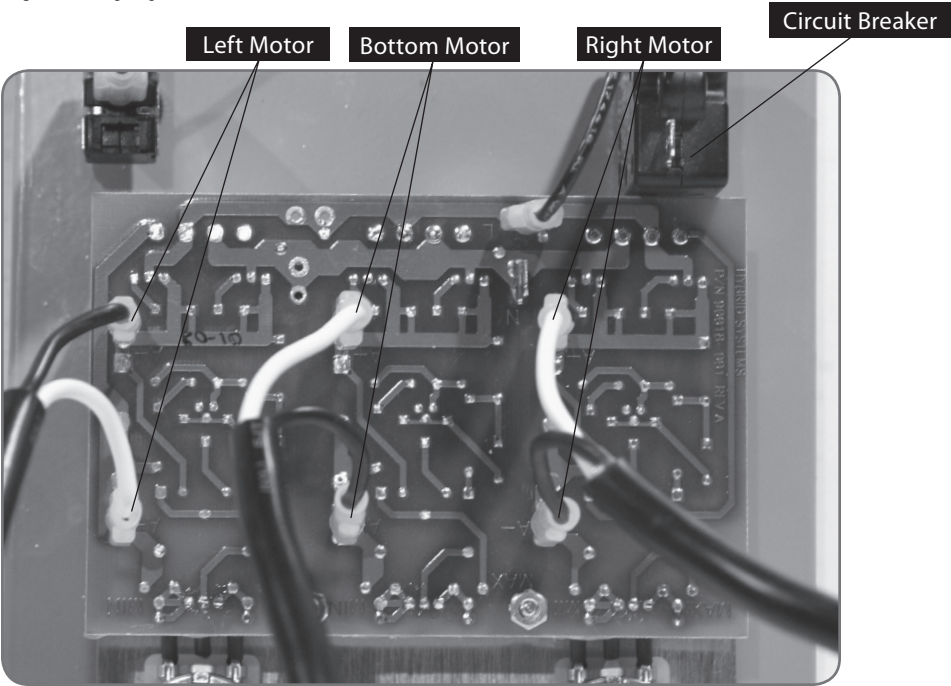
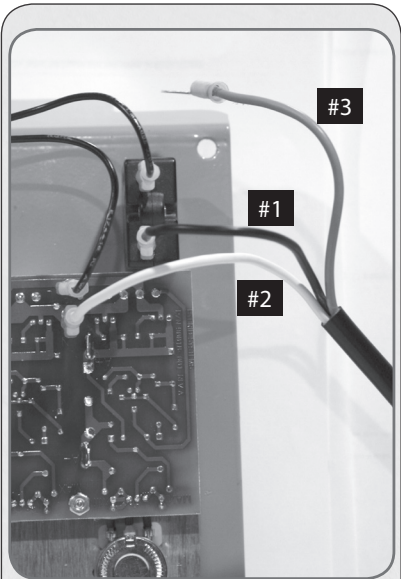

Figure 10 Wiring diagram for all three motors.
Figure 11
3. Remove four screws holding controller into main casting. Note the position of the motor wires on the controller, then disconnect the wires. See Figure 10 on page 12.
- 2. Remove four screws holding controller faceplate into main casting. Note the position of the main power and motor wires on the controller, then disconnect the wires. See Figure 10 on page 12 for the three motor wires. See Figure 11 on page 12 for the main power cord wires.
Be sure wires are correctly reinstalled. Motor wire connectors are different sizes. Be sure they are installed on the correct size terminal. See Figure 10 for the motor wires and Figure 11 for the power cord wire.